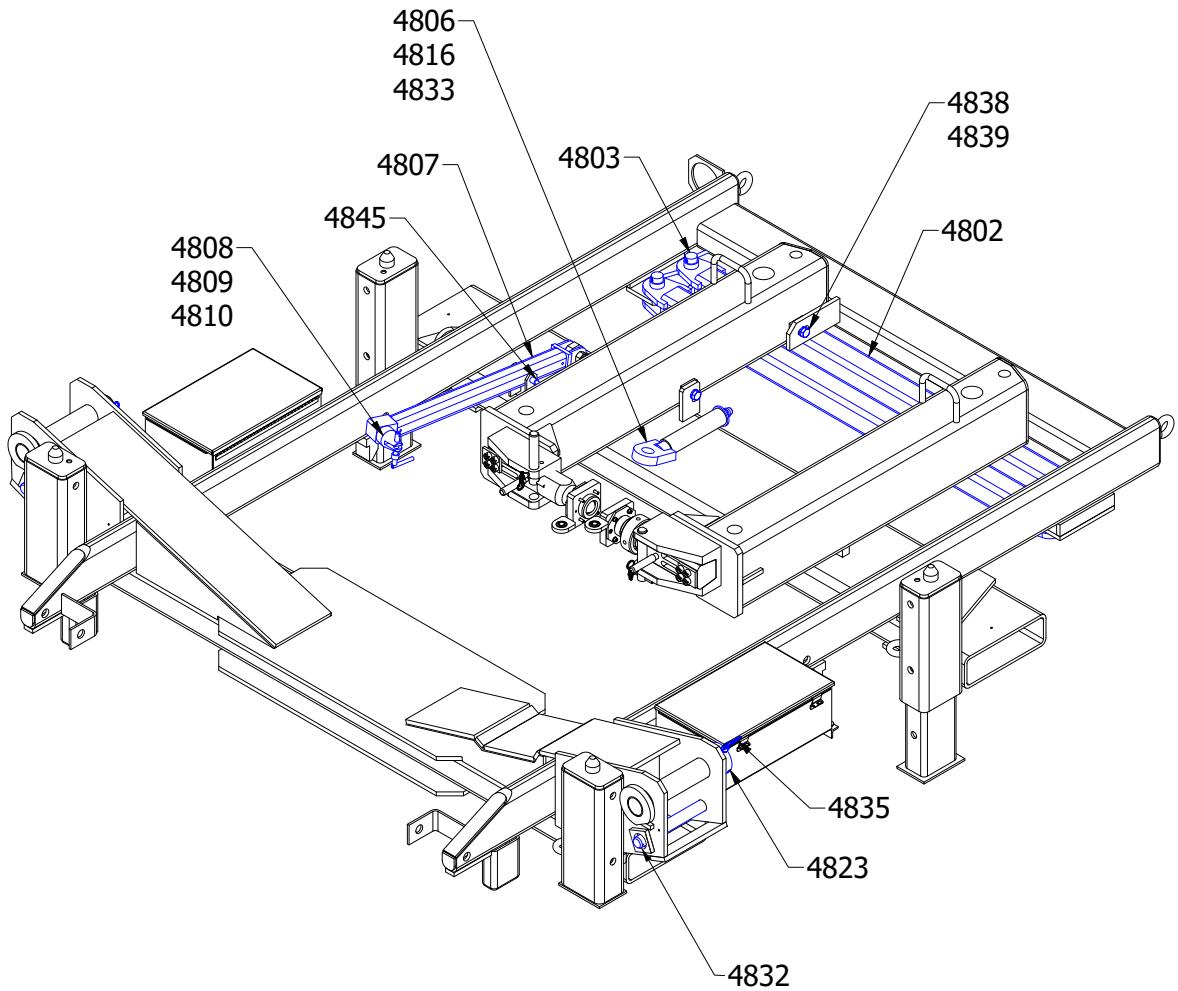

Figure 5.2-1
- 2) Remove forward arm support braces (items 4802 & 4803) and store as shown in Figure 5.2-1.
- 3) Store brace clevis (item 4816) and nut on the aft cradle fork tube as shown in Figure 5.2-1. Tighten the nut to ensure it will not loosen in transit.
- 4) Remove forward arms by removing the pins, spanner nut, bolt and ball lock pin (items 4832, 4823, 4835). Store the forward arms as shown in Figure 5.2-1. and retain the arms using bolts (item 4838) provided.
- 5) Install the forward arm pins, ball lock pins and spanner nuts as shown in Figure 5.2-1. Tighten the spanner nut to ensure it will not loosen in transit.
- 6) Rotate the aft support arm forward and pin it in the storage position using the pin (item 4845).